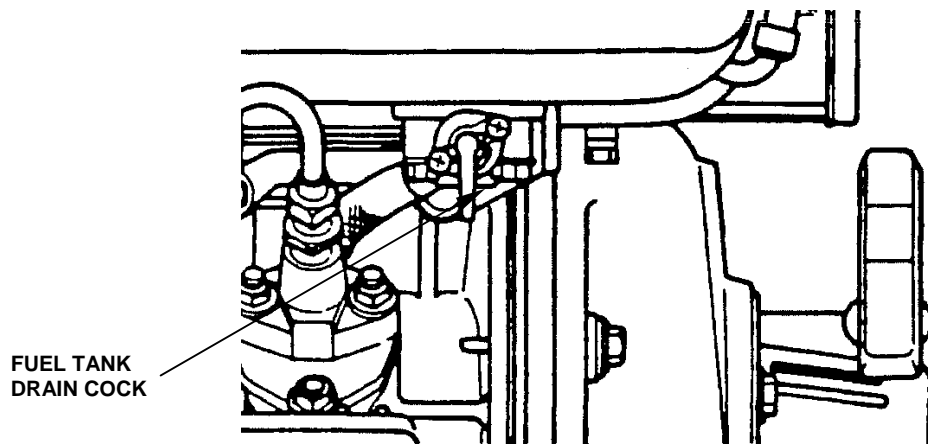

Figure 25. Diesel Fuel Tank Drain Cock.
4. Set the fuel tank drain cock on the diesel fuel tank to the open (O) or in the vertical position. See Figure 25.